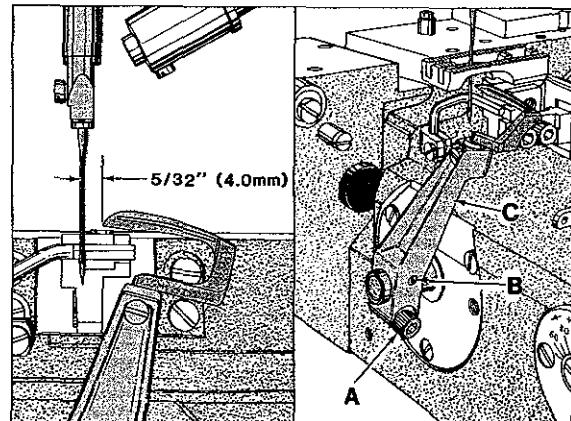

Fig. 7
Insert a new needle, type and size specified. With looper positioned at extreme right end of travel, distance from centerline of needle to point of looper should be 5/32 inch (4.0mm). Adjustment can be made by loosening screw (A, Fig. 7) and turn screw (B) clockwise to increase looper gauge or counterclockwise to decrease. Push looper holder (C) to the left while making this adjustment and locking with screw (A).